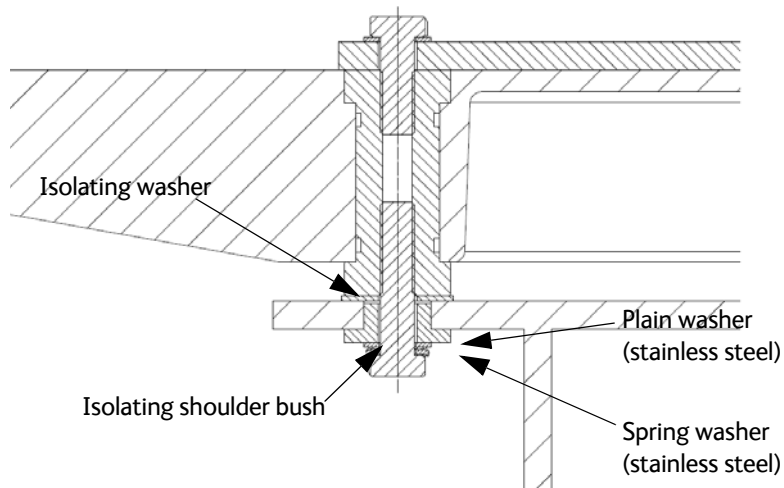

Figure B-7: Isolation of the ADU from the mounting base
4. If the ADU is to be isolated from the mounting base, use shoulder bushings and washer, see figure B-7, *Isolation of the ADU from the mounting base* on page B-9.